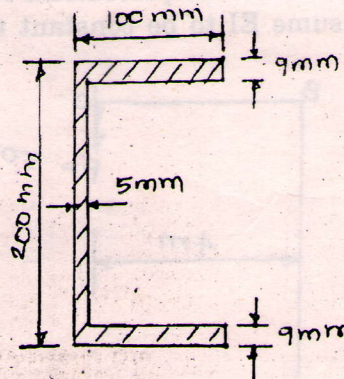

Fig. 7
- (b) Find the maximum shearing stress and unit angle of twist of the bar having the cross-section shown in Fig. 7 when subjected to a torque at its ends of 600 Nm. The bar is made of the steel for which  $G = 77.5 \text{ GPa}$ .